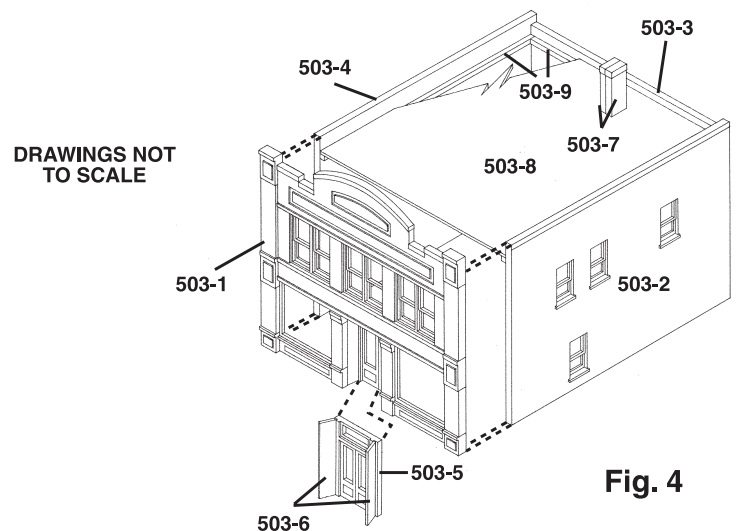

Fig. 4
1. Glue Roof to Roof Supports (Fig. 4).
1. Using Side Panel material (white styrene strip), cut two Entry Door Side Panels (504-6) the same height as Entry Door (504-7) (**Fig. 4**).
3. Glue Front Door Assembly to back of Front Wall (504-1) (**Fig. 4**).